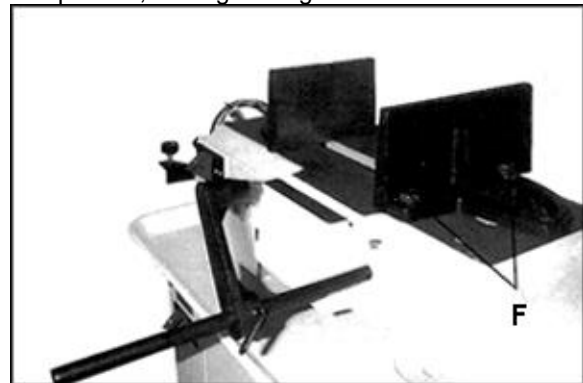

Figure 8-17: vise positioning (712 only)
- 1) Remove bolt and nut assemblies (F, Figure 8-17).
- 2) Position vise and reinstall as shown in Figure 8-17. Pay particular attention to bolt hole location.
Position vise and reinstall bolt assemblies as shown in Figure 8-17.